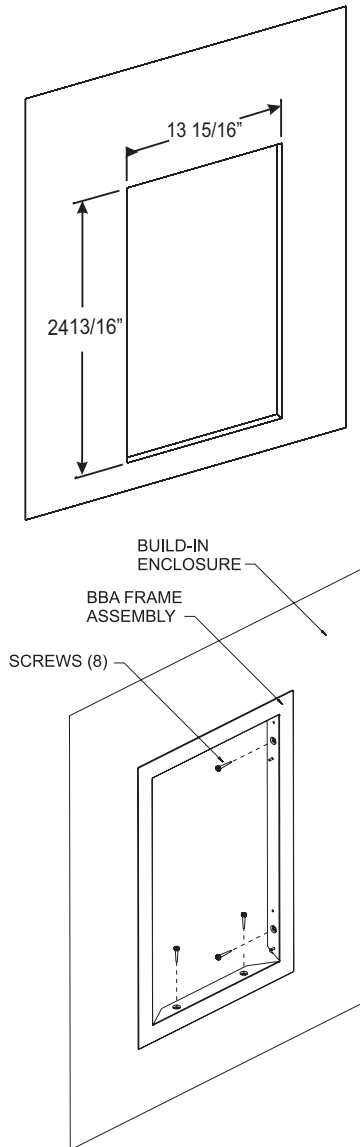

Figure 1
1. Make sure BBA Tank Caddy opening dimensions match those in Figure 1. Place the BBA Frame Assembly in the Built-In Enclosure.
2. Secure the BBA Frame to the Enclosure with eight 8 x 3/4" Hex Head screws as shown in Figure 1.
**Note:** The hinge pins on the BBA Frame will be located near the bottom of the Built-In Enclosure when properly installed. Also See the proper dimensions of the opening in Figure 1.